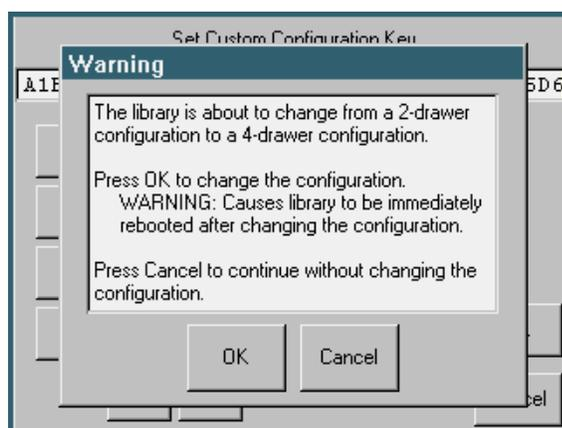

Figure 9-3: Configuration Key Warning Screen
5. At the confirmation Warning screen, click **OK** to accept the change (Figure 9-3).